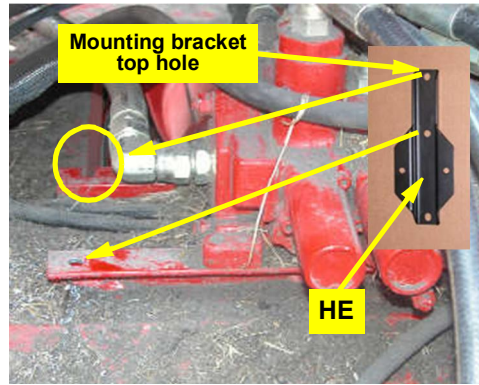
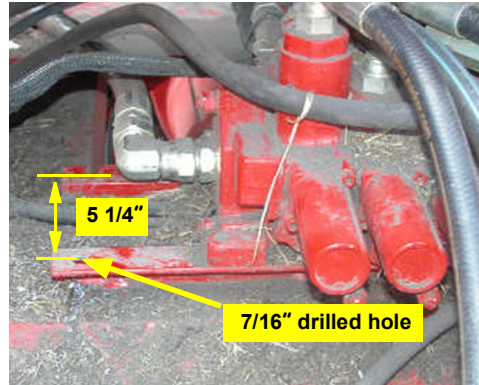

Figure 4-2a: Steering block mounting location
Figure 4-2b: Hole drilled in rear valve stack bracket
a. Locate the slot (circled Figure 4-2a) in the tractor's hydraulic valve stack forward bracket on the left side of the valve stack.
b. Align the top hole in the steering block mounting bracket **HE** (inset Figure 4-2a) with the slot in the valve stack bracket and use the second hole in the mounting bracket **HE** as a template to mark then drill a 7/16" hole in the rear valve stack bracket. The center-to-center distance between mounting holes must be 5 1/4" (Figure 4-2b).